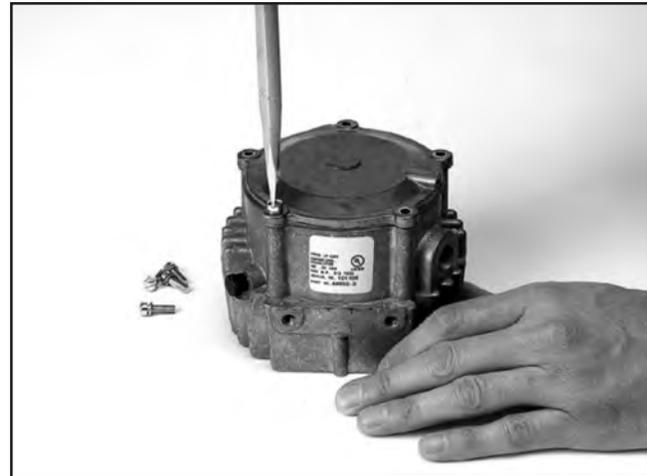

Figure 3-13. Remove Five Secondary Cover Screws
1. Remove the five secondary cover screws, 10-32 x 0.630", and lift the cover off the regulator body and secondary diaphragm (see Figure 3-13). The cover has a tendency to stick to the diaphragm and gasket. A slight tap on the edge of the cover with a screwdriver handle or a soft face hammer will loosen the cover.